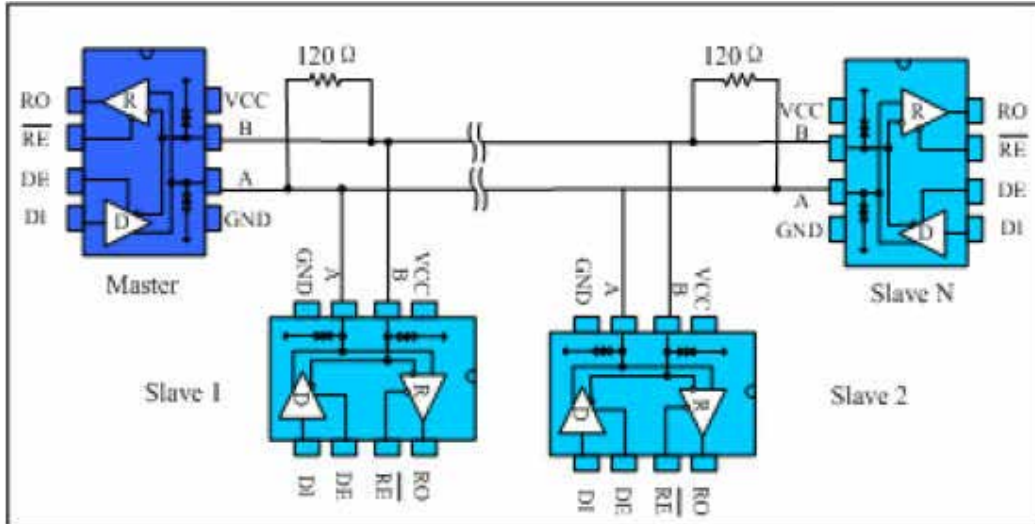

Figure 10. Bus-type RS485 half-duplex communication network
4.1 Bus networking: The ADM3485E RS485 transceiver is designed for bidirectional data communication on multi-point bus transmission lines. Figure 10 shows a typical network application circuit. These devices can also be used as linear repeaters with cables longer than 4000 feet. In order to reduce reflections, terminal matching should be done at both ends of the transmission line with their characteristic impedance, and the length of the branch wires other than the main line should be as short as possible.